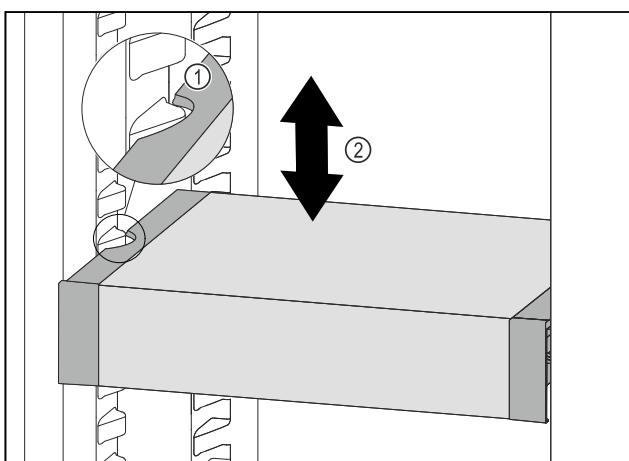

Fig. 92
- Pull VarioSafe forwards until the recesses in the side of the VarioSafe are at the level of the support rib in the refrigerator compartment. *Fig. 92 (1)*
► Move VarioSafe up or down in the refrigerator compartment until the desired height is reached. *Fig. 92 (2)*